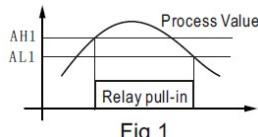

Fig 1
- 2) Set AH1>AL1, relay is for high alarm limit. See [Fig1]